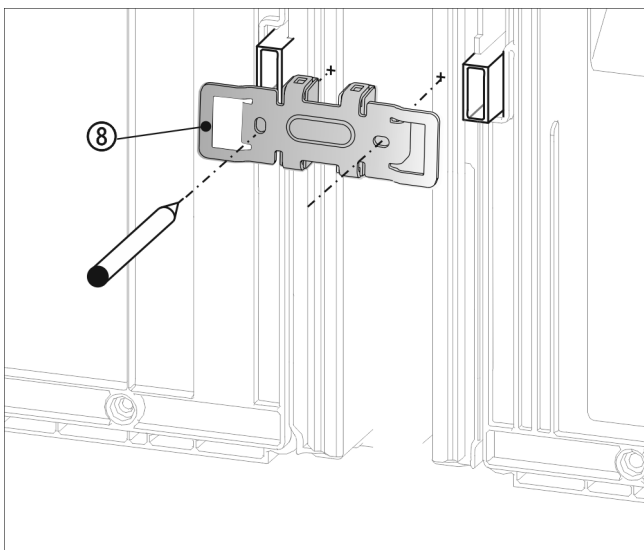

Fig. 21
- ▶ Slide the bracket Fig. 21 (8) on with the slots over the retainer for the wall spacers.